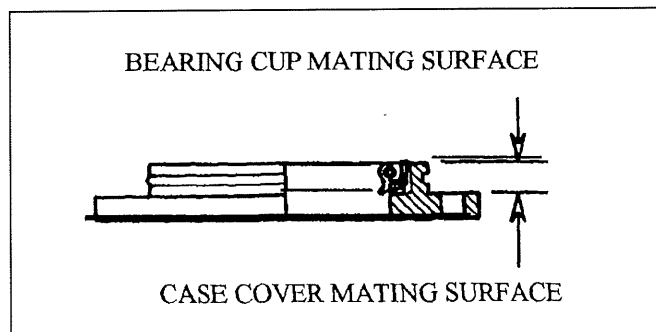

Figure 1-10: Measure taken from bearing retainer
5. Measure the distance between the two bearing retainer (119) surfaces as shown in figure 1-10 and record.
7. Add .009 inch (.007-.010 inch) to the measurement determined in step 6. This is the total thickness of the shim pack (122) to be placed on the output bearing cup.
8. Place the shims determined in step 7 on face of bearing cup (151) and place retainer (119) in position.
9. Install retainer (119) assembly with bolts (118). Torque to 14-16 lb-ft (19-22 Nm).
10. Install dipstick tube (102), pump and valve assembly (107) as described in Form 1351/4-95.